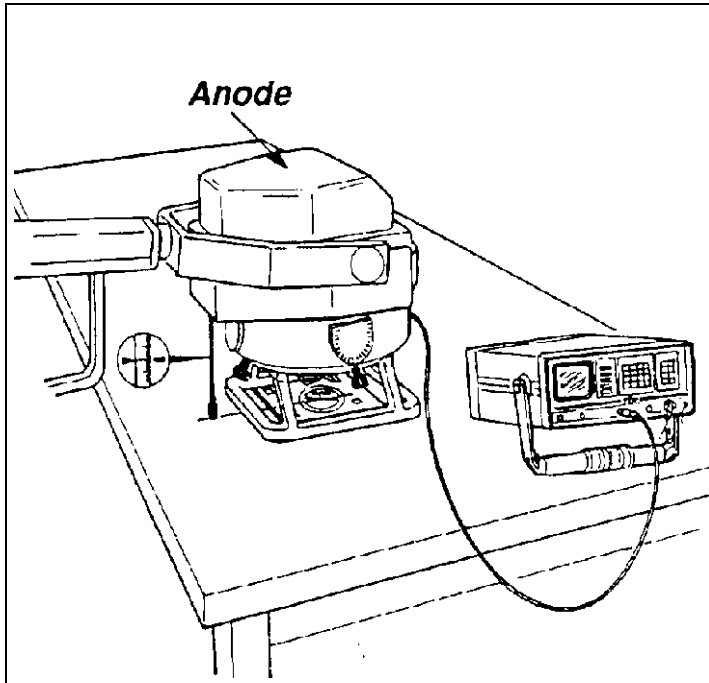

Fig. 28: kV measurement
- Place the measuring detector on a suitable surface and center the single tank with respect to the measuring detector (Fig. 28 / p. 61).